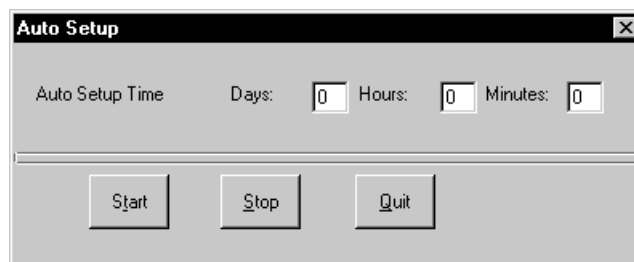

Figure 6-13. Auto Setup
1. Select **Options>Configure>Auto Setup**. Figure 6-13 displays.